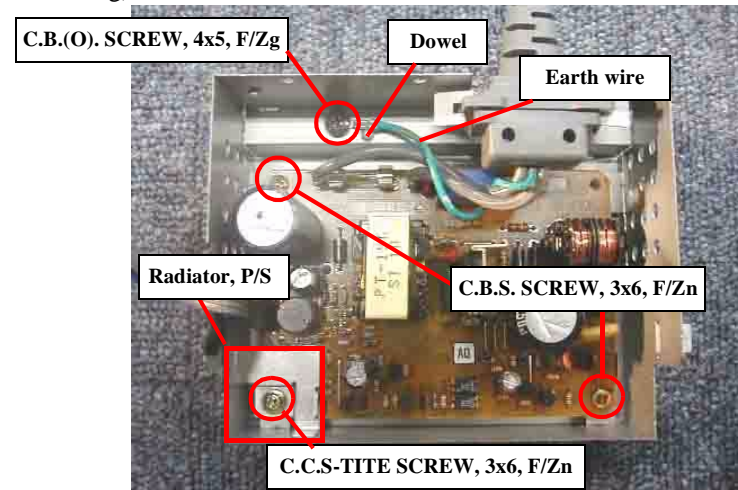

Figure 4-24. Power supply board removal
- Make sure to set the earth wire on the dowel of the Lower power supply board shield plate (Refer to Figure 4-24) (* The product with 110V type AC cable does not have the earth line)